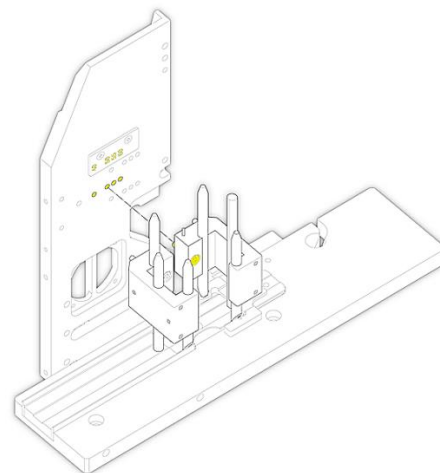

Figure 16
3. The coverslip magazine must also be adjusted to the new coverslip size. To do this loosen the fastening screw on the front part of the coverslip magazine (Figure 16) and remove it. Move the carrier plate to the appropriate location for the new coverslip size and tighten the screw.